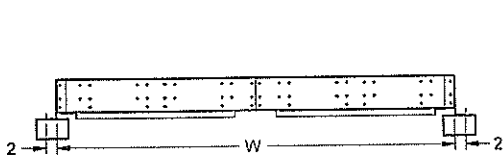

Figure 1 Base detail including unit nominal width "W"
- Base rails extend 2" past the unit width or length on either side of the cabinet (see Figure 1).
- Supporting beams should be 12" longer than the nominal unit width "W" from figures 1 and 2 above, extending 6" on either side of the unit.